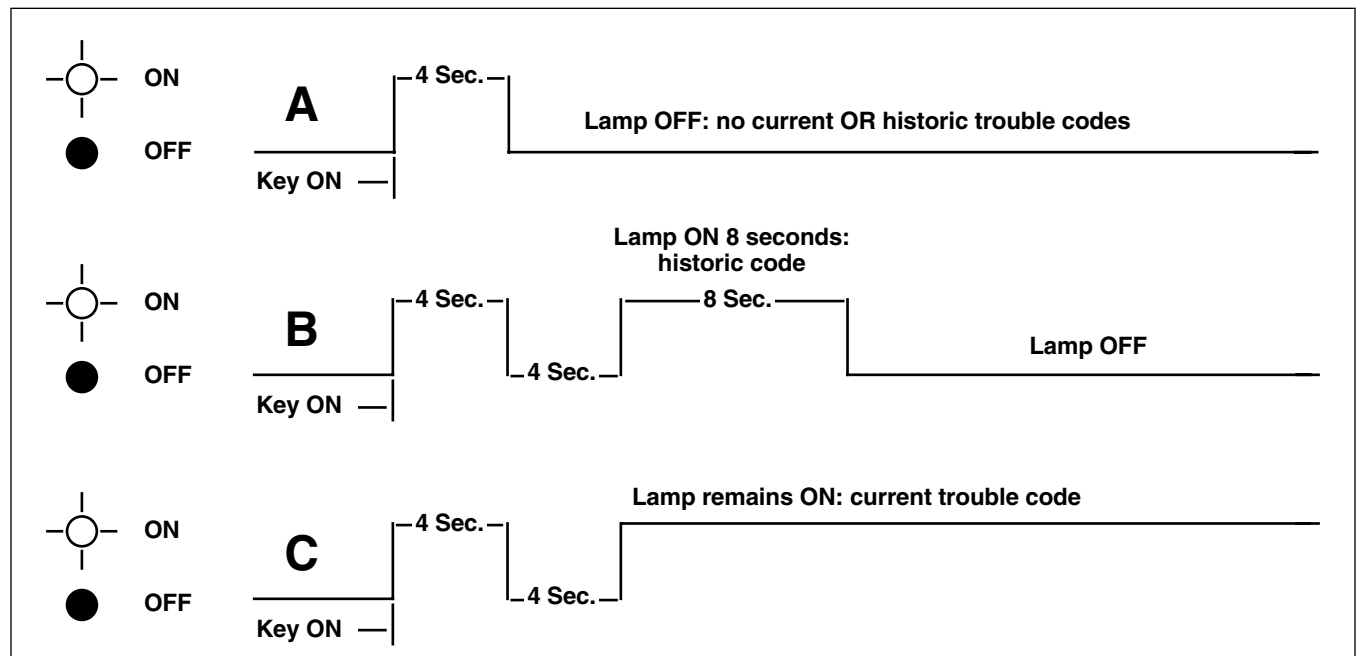

Figure 4-7. Check Engine Lamp Operation
1. See Figure 4-7. After lamp turns off after being illuminated for the first four second period, one of three situations may occur.